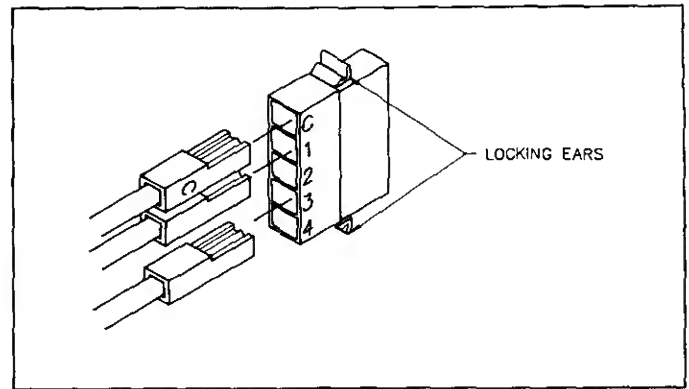

FIGURE 41
- e. Locate connector block beside blower door on control box side. Remove it by squeezing locking ears of connector block. See Figure 41.